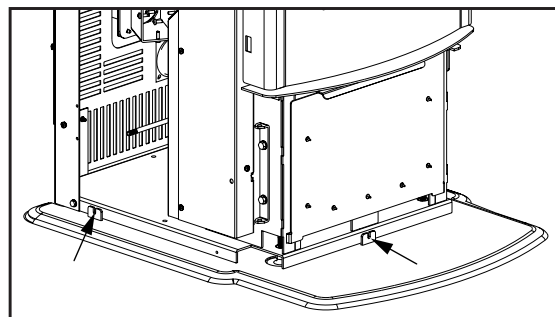

Figure 15: Mini Bern Hearth Pad in Place.
5. Loosen the three (3) T-20 screws from the base of the unit (see Figure 15).